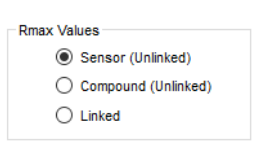

Figure 5-34: Rmax Values
5. Select an Rmax Values option (Figure 5-34). When fitting data, the theoretical response maximum (Rmax) can be calculated with: